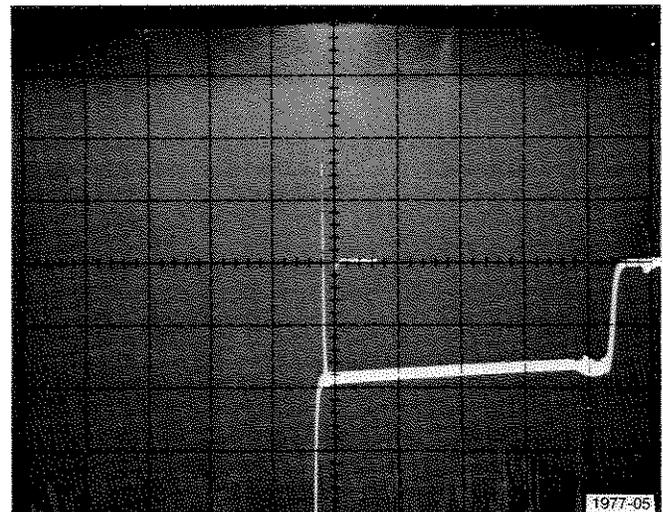

Fig. A-5. Display of input offset current.
e. Check that the input offset (vertical separation between the two displays i.e., +INPUT I and —INPUT I) is ≤ 2.5 divisions (≤ 50 nA, see Fig. A-5). If greater resolution is needed, change the VERT UNITS/DIV switch to a more sensitive setting and repeat this test.